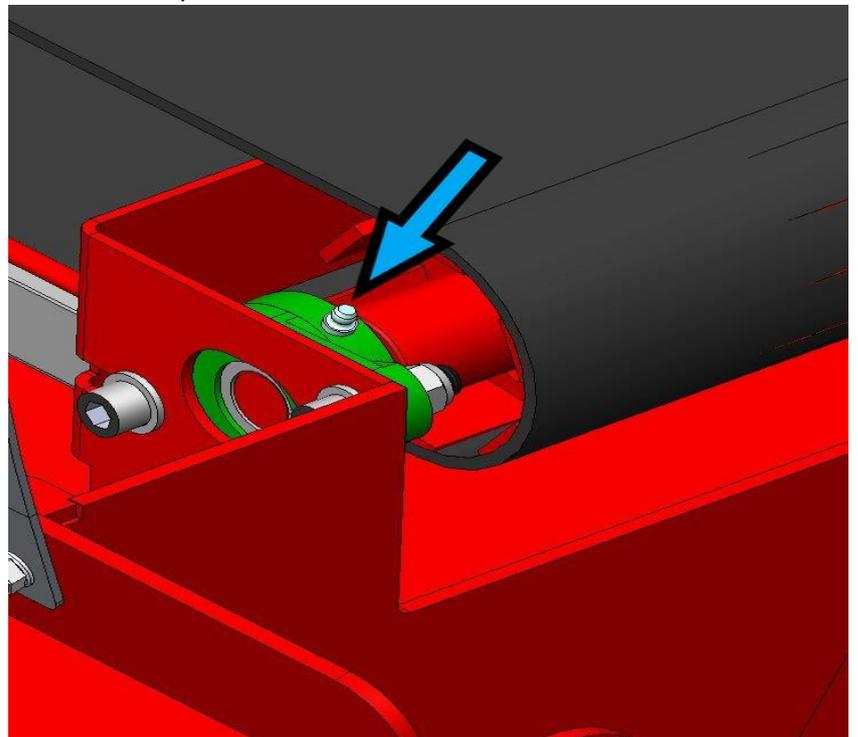

Figure 51.
- 11. Drive roller nipple (1 pc, Figure 51).